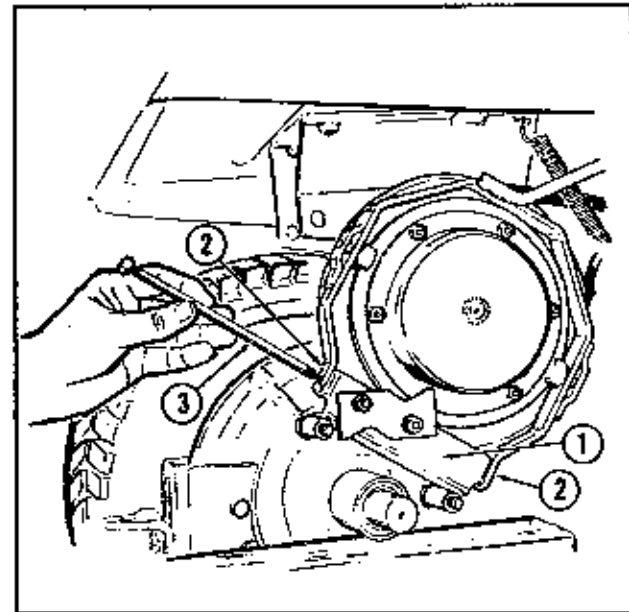

Figure 10
5. Assemble the pivot bracket assembly #1, Fig. 10, over the two studs as shown in Fig. 10, and fasten securely with two 3/8" lockwashers and 3/8"-16 hex nuts. Align the two holes #2, Fig. 10 in the end of the shift fork assembly with the two holes in the pivot bracket and secure with a 5/16"-18 x 6 1/2" lg. hex capscrew #3, Fig. 10, and 5/16"-18 hex lock nut. Avoid overtightening this bolt, as the shift fork assembly must be able to pivot freely.